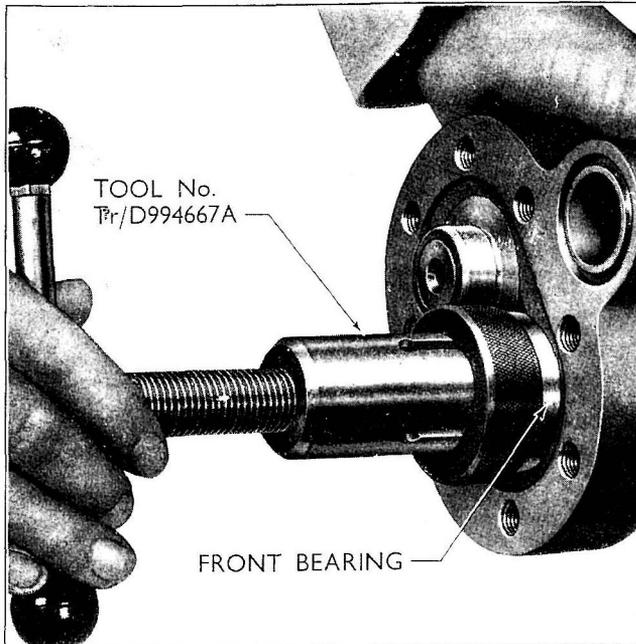

Fig. 202
- 6 Remove the front bearings by locating the bearing remover (tool No. Tr/D 994667-A) in the groove in the drive gear bearing (see Fig. 202), tighten the centre bolt so that the bearing is pulled out of the body approximately $\frac{1}{4}$ in, and both bearings are unlocked and may then be withdrawn. Separate the bearings and locking springs.